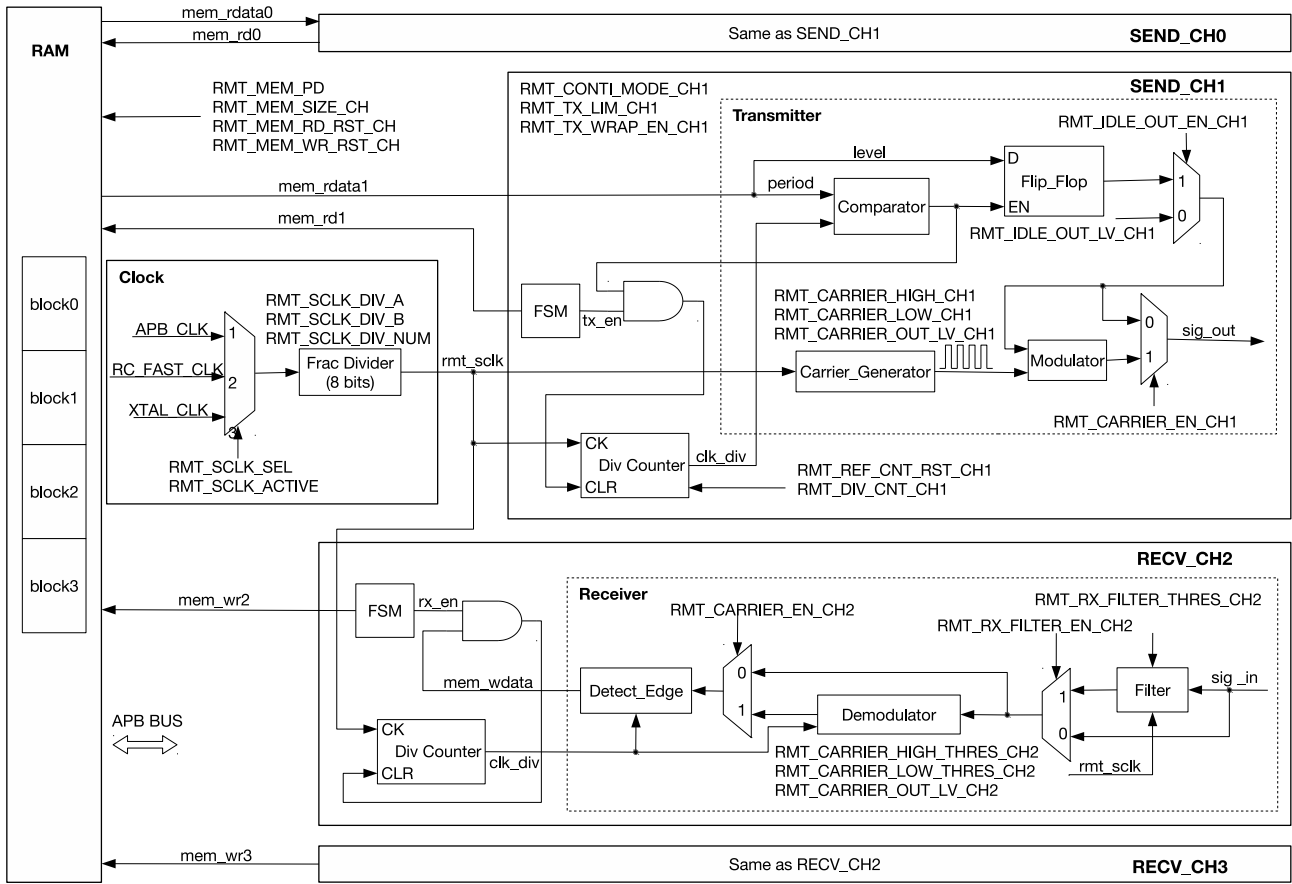

Figure 33-1. RMT Architecture
- Period: points out how many clk\_div clock cycles the level lasts for, see Figure 33-1.
The clock source of RMT can be APB\_CLK, RC\_FAST\_CLK or XTAL\_CLK, depending on the configuration of RMT\_SCLK\_SEL. RMT clock can be enabled by setting RMT\_SCLK\_ACTIVE. RMT working clock (rmt\_sclk) is obtained by dividing the selected clock source with a fractional divider, see Figure 33-1. The divider is:
RMT\_DIV\_CNT\_CH $n$ / $m$  is used to configure the divider coefficient of internal clock divider for RMT channels. The coefficient is normally equal to the value of RMT\_DIV\_CNT\_CH $n$ / $m$ , except value 0 that represents coefficient 256. The clock divider can be reset by clearing RMT\_REF\_CNT\_RST\_CH $n$ / $m$ . The clock generated from the divider can be used by the counter (see Figure 33-1).